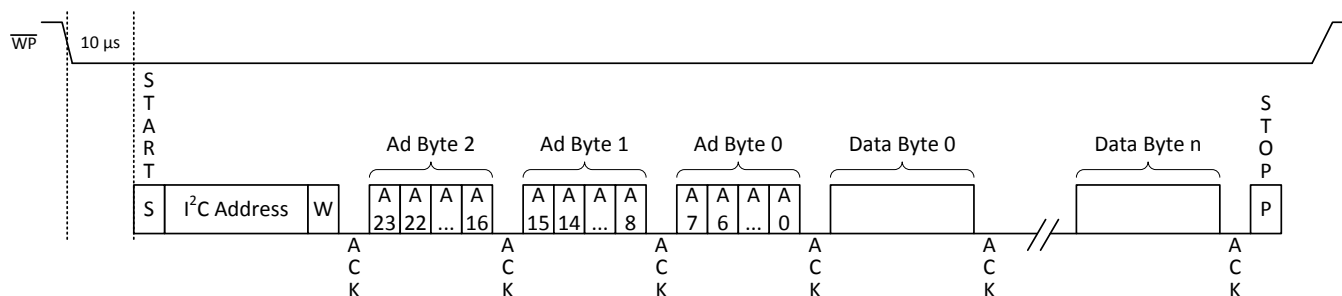

Figure 5. I2C Page Write Timing Diagram
**NOTE:** When the stop is issued, the data has written to FRAM. For backward compatibility reasons, the application can call acknowledge polling but I2C will immediately ACK. For more information, Figure 5 shows the I2C page write.